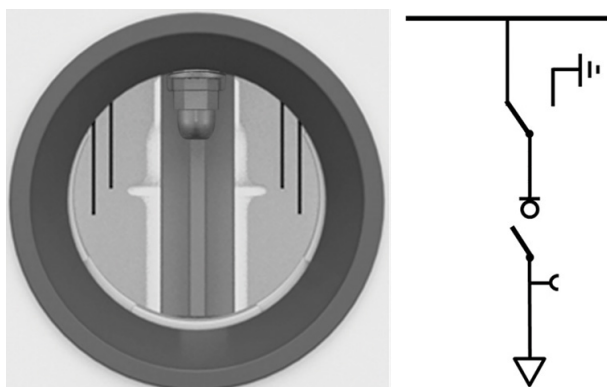

Figure 4-4: Open position (VI open and change-over in busbar position)
1. Press the opening button (2).
2. Check that the switch's position indicator (5) indicates the OFF position. In the inspection window, the opened **Open position** is also visible; see figure 4-4.
3. If the selector control knob (7) is not in the middle position (7) turn it to this position; both openings (6) and (8) will then be covered.